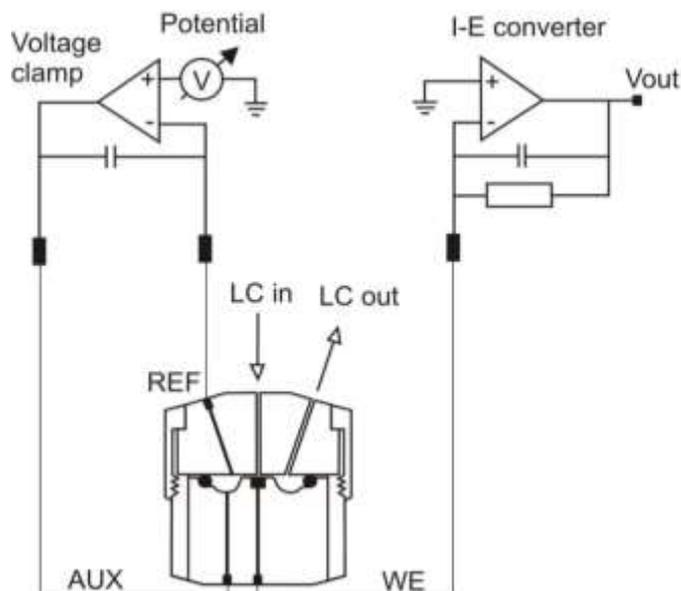

Fig. 14. Schematic representation of an electrochemical cell with a three-electrode configuration.
The circuitry of the DECADE Elite detector is designed for operation with electrochemical flow cells with a three-electrode configuration (Fig. 14). The working potential is set between the working electrode (WE) and the auxiliary electrode (AUX). The AUX is kept at a precisely defined reference electrode (REF) potential by means of the so-called voltage clamp. This is an electronic feedback circuit that compensates for polarization effects at the electrodes.